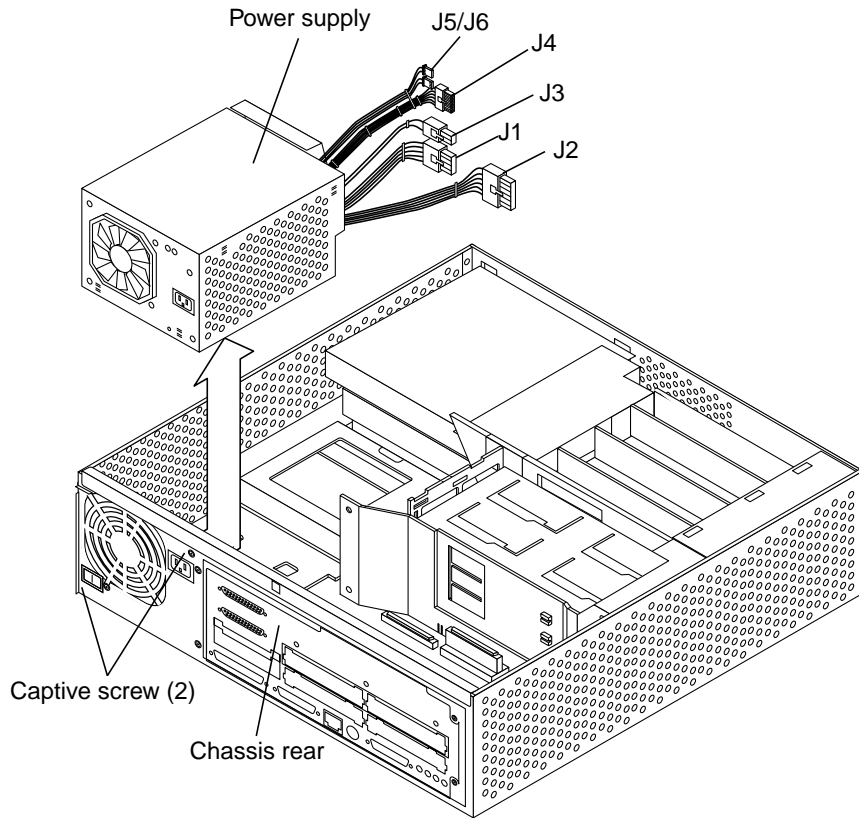

FIGURE 8-1 Removing the Power Supply
7. **Disconnect the following power supply connectors from the motherboard (FIGURE 8-1).**